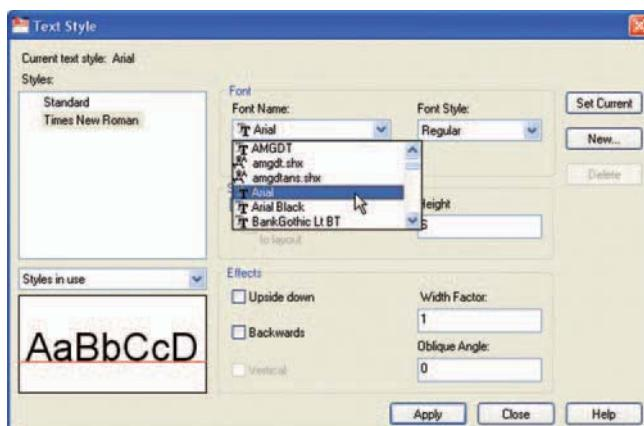

Fig. 4.8 The **Text Style** dialog
- The **Text style** dialog appears (Fig. 4.8). In the dialog, enter **6** in the **Height** field. Then left-click on **Arial** in the **Font name** pop-up list. **Arial** font letters appear in the **Preview** area of the dialog.